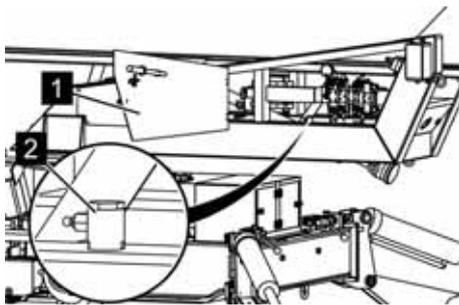

Fig. 127: Slide coupling
3. ➤ Remove the door (Fig. 127/1) and remove the slide coupling (Fig. 127/2).